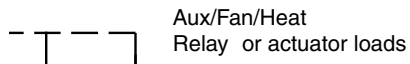

Figure 21. Output Device Connections
1. Connect one lead of the control relays to TB5-1 through TB5-6 (Output 1 through Output 6) as shown in Figure 21.